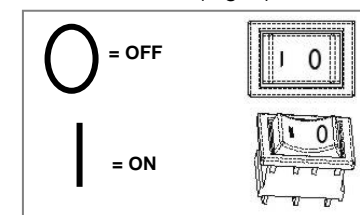

Fig 4
- Push on the "O" side to turn the vacuum OFF. (Fig. 4)